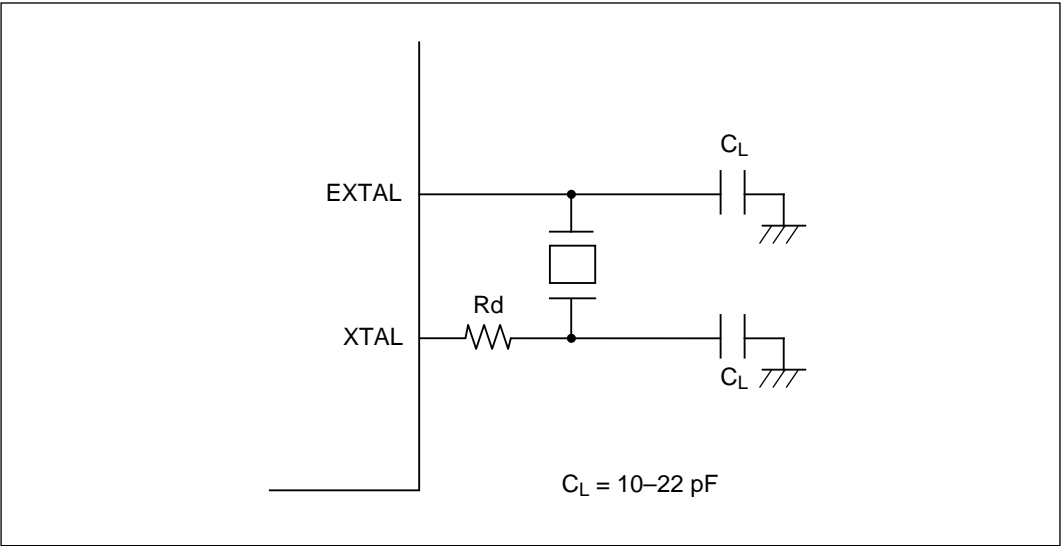

Figure 8-2 Connection of Crystal Resonator (Example)
(1) **Circuit Configuration:** A crystal resonator can be connected as in the example in figure 8-2. An AT-cut parallel resonating crystal should be used. See table 8-1 for the damping resistance.